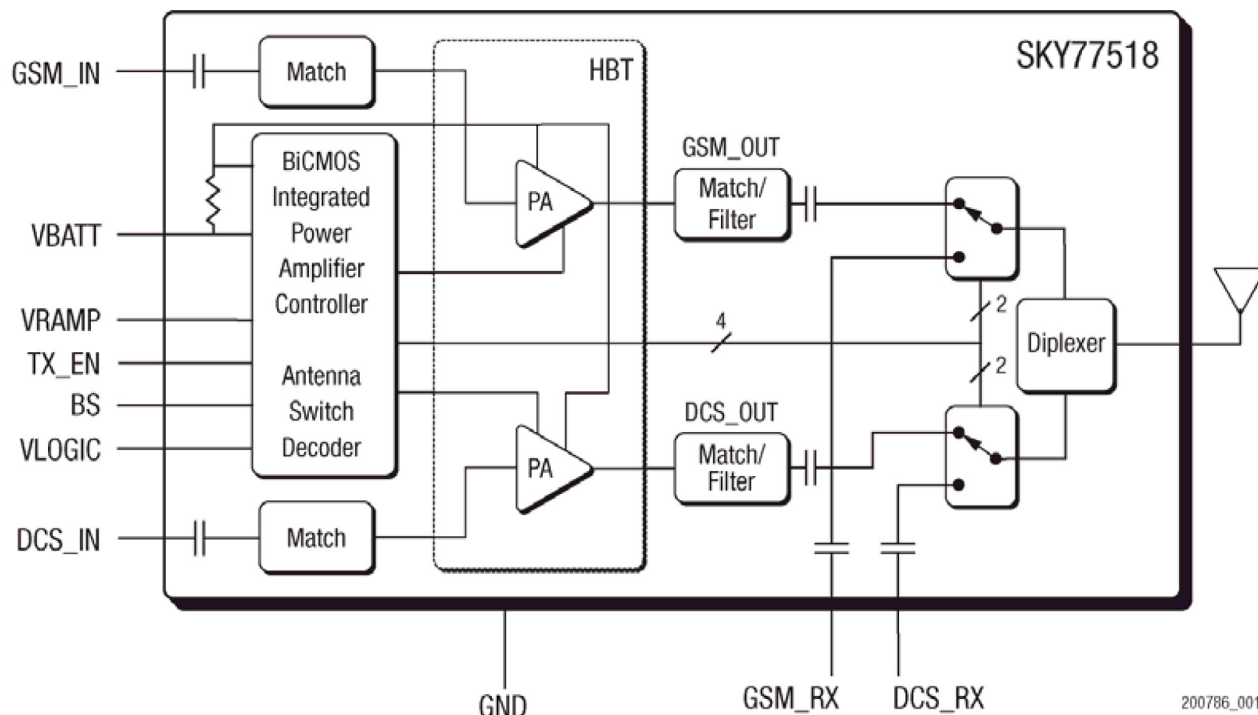

Figure.3-2-1 SKY77518 FUNCTIONAL BLOCK DIAGRAM
The assembly is encapsulated with plastic overmold. Band selection and control of transmit and receive modes are performed using two external control pads. Refer to the functional block diagram in Figure.3-2-1 below. The band select pad (BS) selects between GSM and DCS modes of operation. The transmit enable (TX_EN) pad controls receive or transmit mode of the respective RF switch (TX = logic 1). Proper timing between transmit enable (TX_EN) and Analog Power Control (VRAMP) allows for high isolation between the antenna and TXVCO while the VCO is being tuned prior to the transmit burst.